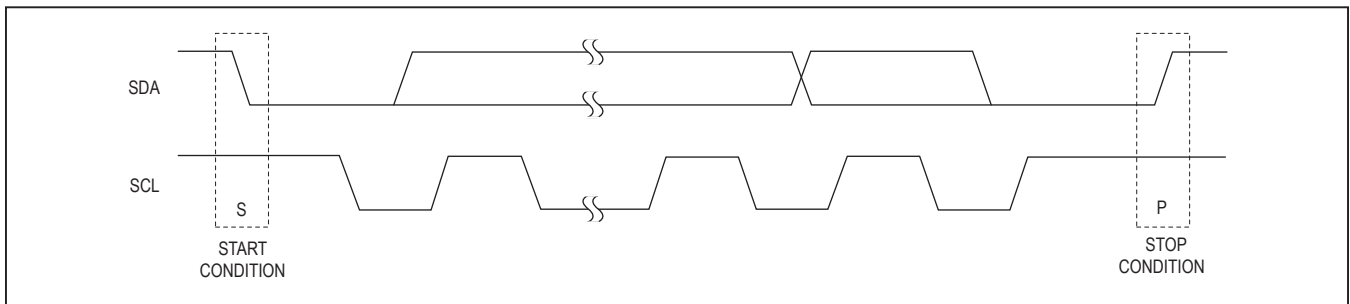

Figure 4. START and STOP Conditions
The IC operates as a slave device that sends and receives data through an I²C-compatible 2-wire interface. The interface uses a serial-data line (SDA) and a serial-clock line (SCL) to achieve bidirectional communication between master(s) and slave(s). A master (typically a microcontroller) initiates all data transfers to and from the IC and generates the SCL clock that synchronizes the data transfer. The SDA line operates as both an input and an open-drain output. A pullup resistor is required on SDA. The SCL line operates only as an input. A pullup resistor is required on SCL if there are multiple masters on the 2-wire interface, or if the master in a single-master system has an open-drain SCL output. Each transmission consists of a START (S) condition (Figure 4) sent by a master, followed by the MAX14592 7-bit slave address plus R/W bit, a register address byte, one or more data bytes, and finally a STOP (P) condition.
Both SCL and SDA remain high when the interface is not busy. A master signals the beginning of a transmission with a START condition by transitioning SDA from high to low while SCL is high (Figure 4). When the master has finished communicating with the slave, it issues a STOP